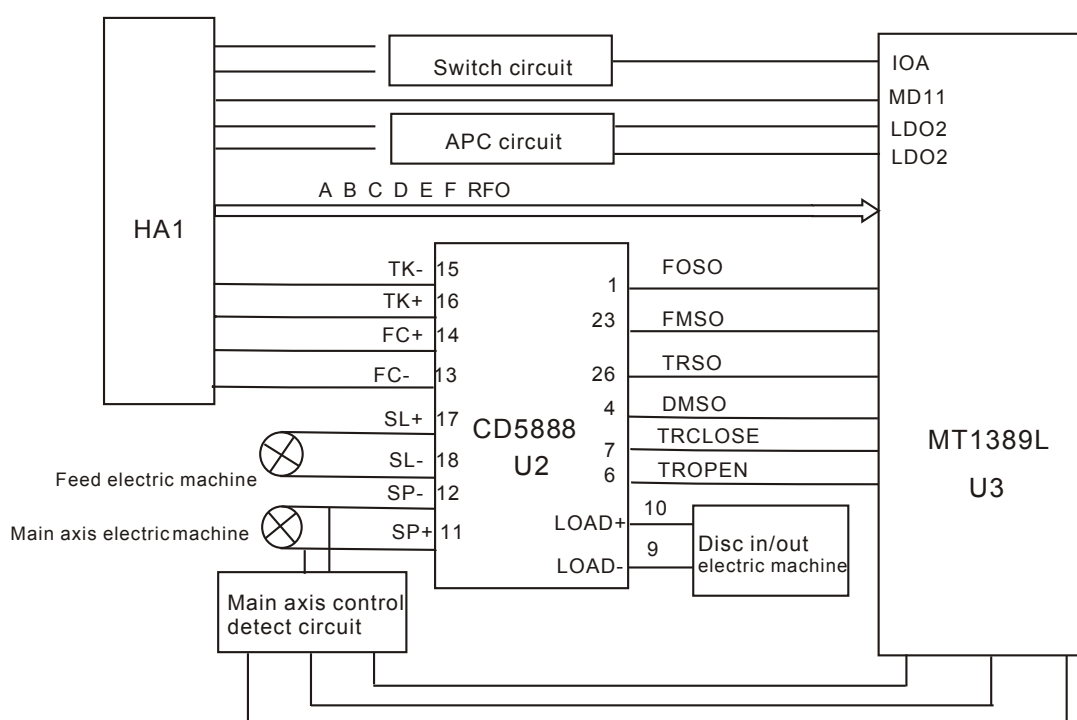

Figure 3.2.2.1 Servo circuit block diagram
1. Servo system of this player adopts SANYO loader + MTK decode solution (MT1389L+FLASH (16M) + SDRAM (64M)), and its servo circuit is mainly composed of front end signal processing, digital servo processing, digital signal processing IC MT1389L and drive circuit CD588S , in which MT1389L is also the main composed part of decode circuit. Servo circuit block diagram is shown as in the following figure 3.2.2.1: